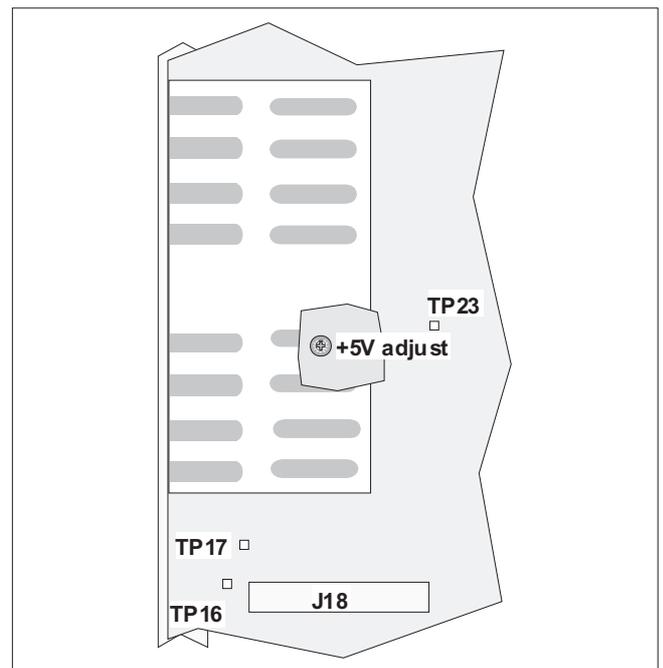

Fig. 9-11 Test points and trimmer for the power supply.
- Connect the DMM between TP23 and ground, see Fig. 9-11.